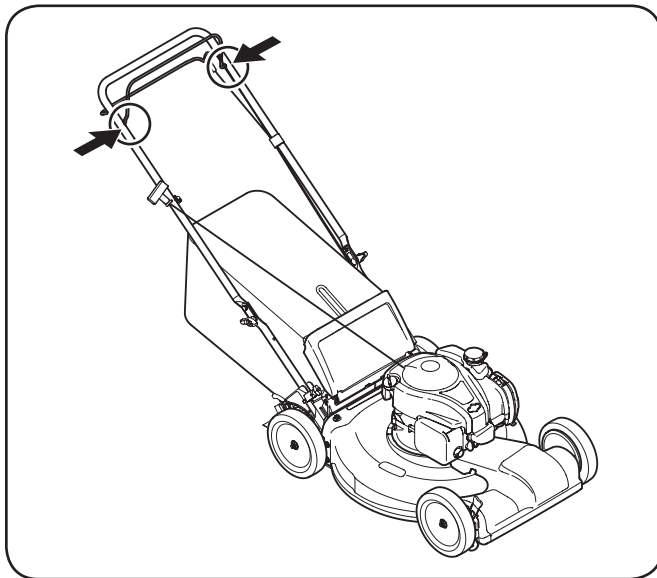

Figure 6-1
1. Lubricate pivot points on the blade and drive controls at least once a season with light oil. These controls must operate freely in both directions. See Figure 6-1.